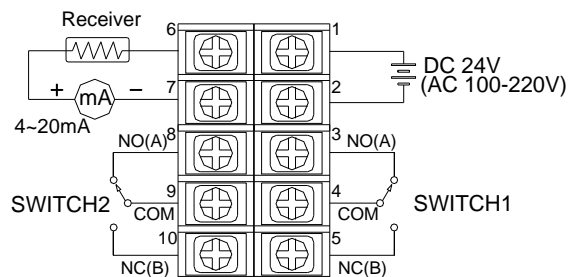

FIG.2
3. Connect lead cable to power terminal matching polarity as shown in FIG.2 below. Take care that wrong wiring will damage the Instrument and malfunction (AC220V is not concerned to polarity)
1. Connect lead cable to current out terminal matching polarity as shown in FIG.2 below.